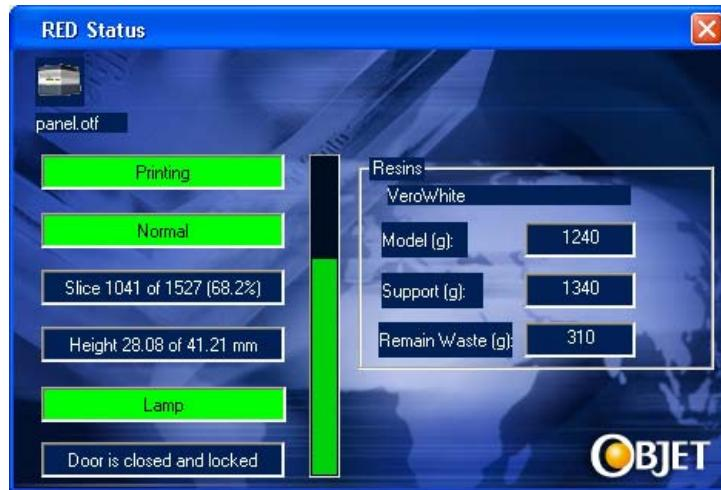

Figure 6-3: Printer status screen
--	Displays the status of the 3-D printer (see figure 6-3).